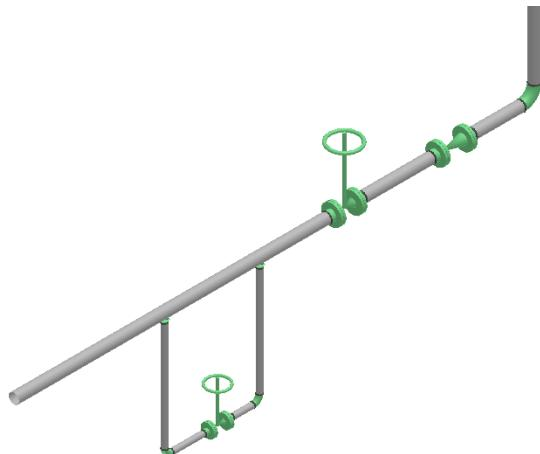

Figure 28: Placed Component
19. Now, use **PinPoint** to locate the midpoint of the pipe run to the left of the check valve. Use it as the active placement point for the component you want to place. Then, place a gate valve, as shown in Figure 28.